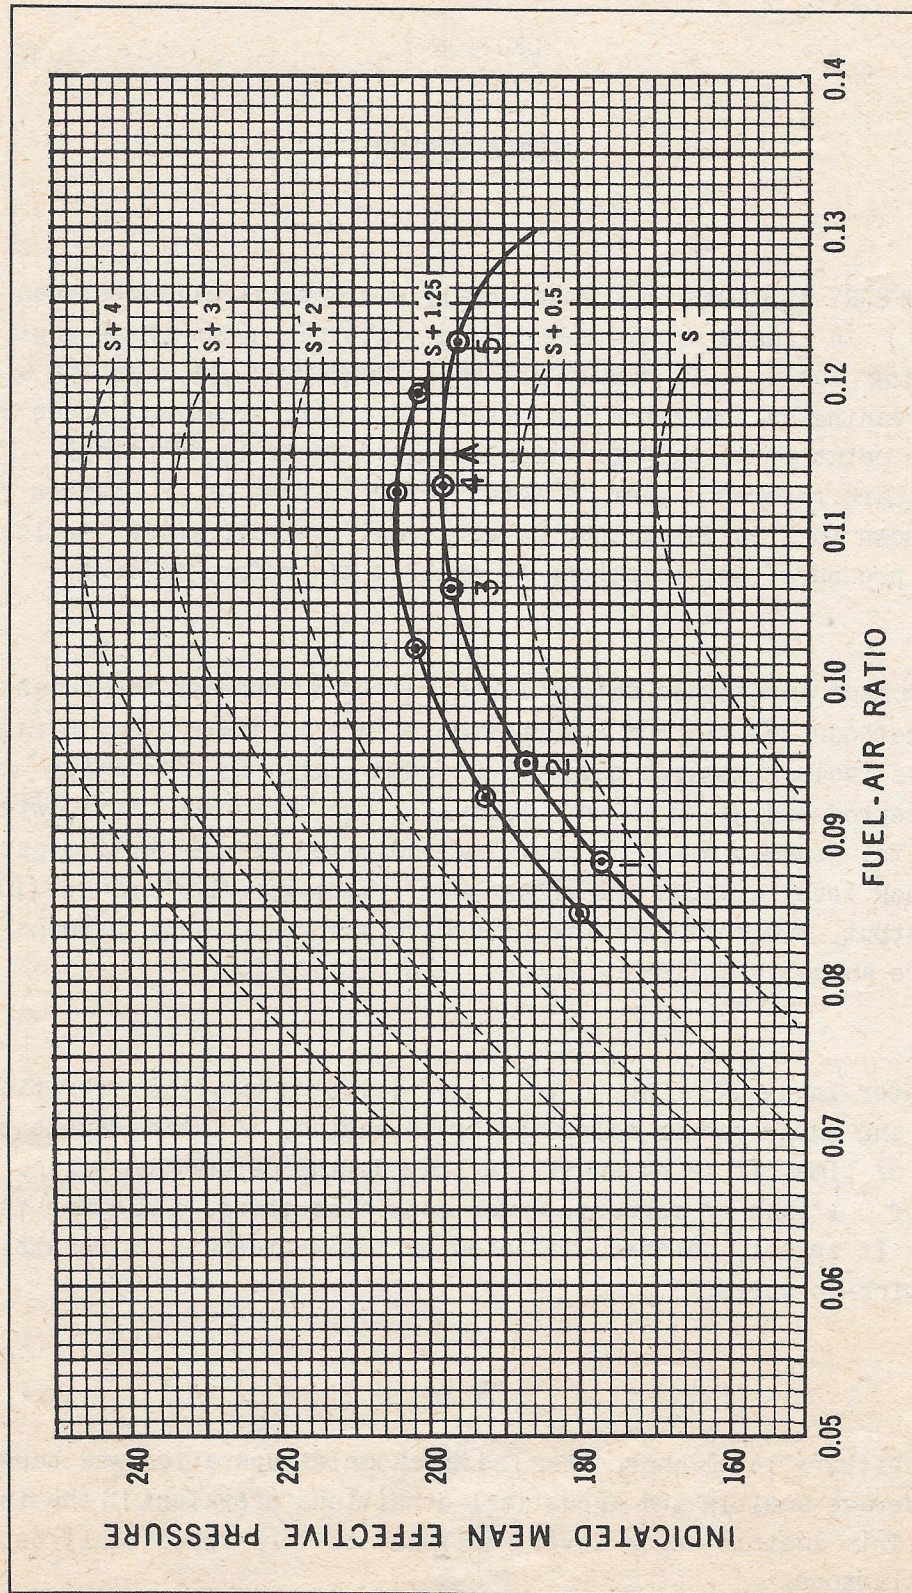

Figure 2 - Comparative Fuel Curves
2. As the instrument determines detonation directly, it reduces the human errors prevalent in other methods to a minimum and provides a very accurate means of rating the anti-knock quality of fuels. Research data reveals that incipient detonation (or trace knock) curves can be reproduced by different operators, on different days, with practically identical results, usually within a pound of indicated mean effective pressure. Only a change in knock level affects the knockometer reading; other changes (pick-up output, engine power output, manifold pressure or engine modifications) have no effect except as these factors actually influence knock. (See figure 2.)